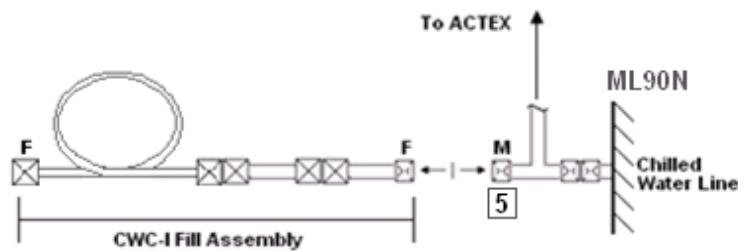

Figure 10-6.- CWC-I Fill Assembly removal.
1. CWC-I Fill Assembly ←|→ Chilled Water Line Tee QD (#5) (see fig 10-6)